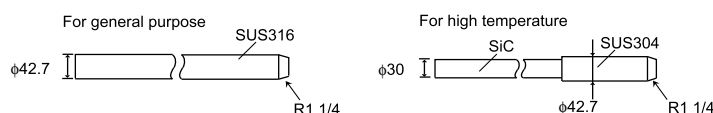

Fig. 4-2 Shape of sampling probe (unit: mm)
- (1) The sampling probe comes in general purpose version (temperature: 800°C or lower, material: SUS316) and high temperature version (temperature: 1590°C or lower, material: SiC). Pay utmost attention to mechanical and thermal impacts to a probe for high temperature because it is easy to break (see Fig. 4-2).
- (2) The sampling probe and ejector will be shipped separately from each other. When mounting, wind airtight tape on the probe, and screw it into the ejector body.
- (3) Install the furnished heat resisting packing into the probe, and fasten it with M16 nut (on bolt welded on body).